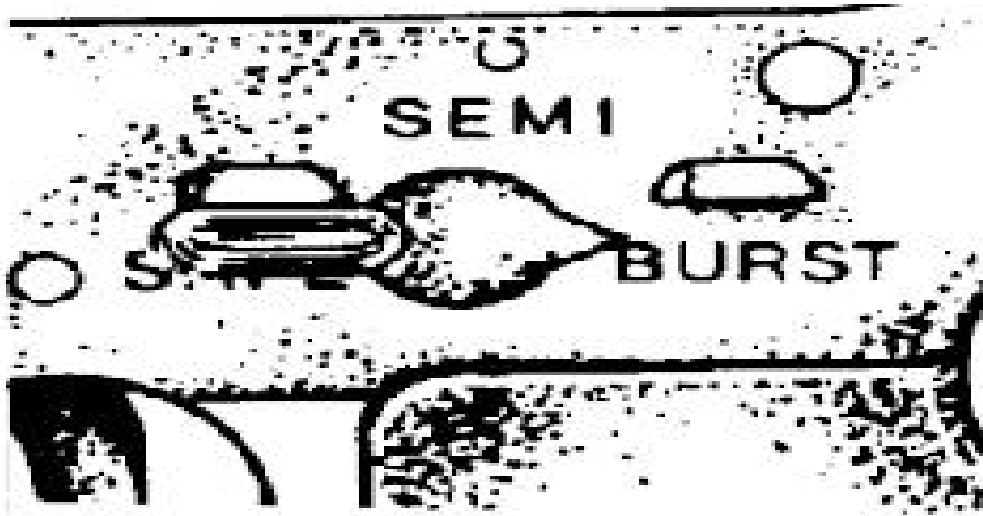

Figure E-46. Selector on BURST
4. Check an M16A2 or M4 Series rifle with the selector lever in the BURST position (figure E-46).